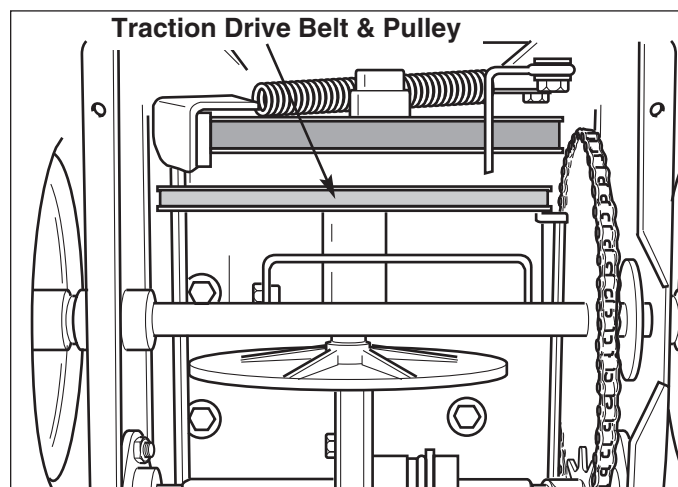

Figure 29. Traction Drive Pulley (Lower Cover Removed For Clarity)
4. Slip the belt off from around the traction pulley (See Figure 29) and pull the belt out of the unit between the auger pulley and the traction pulley (the lower cover need not be removed for this step).